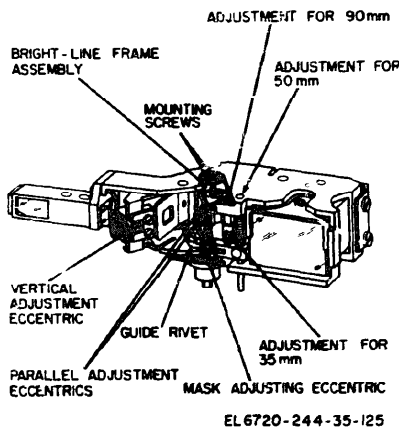

Figure 4-23. Range-viewfinder adjusting points.
(1) *Cleaning.* Remove the two mounting screws (fig. 4-23), and slide out the bright-line frame assembly.
1. Turn the parallel adjustment eccentrics (fig. 4-23), until the bright-line frame is parallel with the graticule solid frame line.
1. Turn the 50-mm adjusting shaft (fig. 4-23), until only the 50-mm bright-line frame is seen in its entirety.
1. Turn the 90-mm adjusting shaft (fig. 4-23), until only the 90-mm bright-line frame is seen in its entirety.
1. Turn the 35-mm multislotted adjusting nut (fig. 4-23), until only the 35-mm bright-line frame is seen in its entirety.